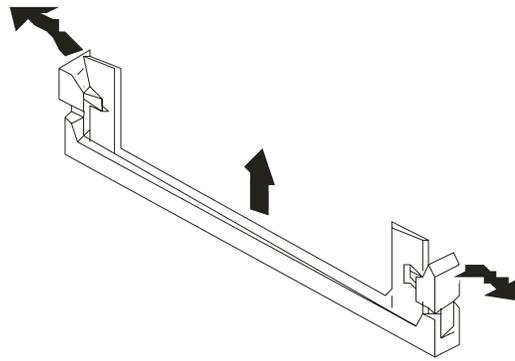

Figure 4-16. Removing the DIMM Connector Cover
10. Remove the DIMM connector covers from its socket (see Figure 4-16). Save the DIMM connector cover for future use.